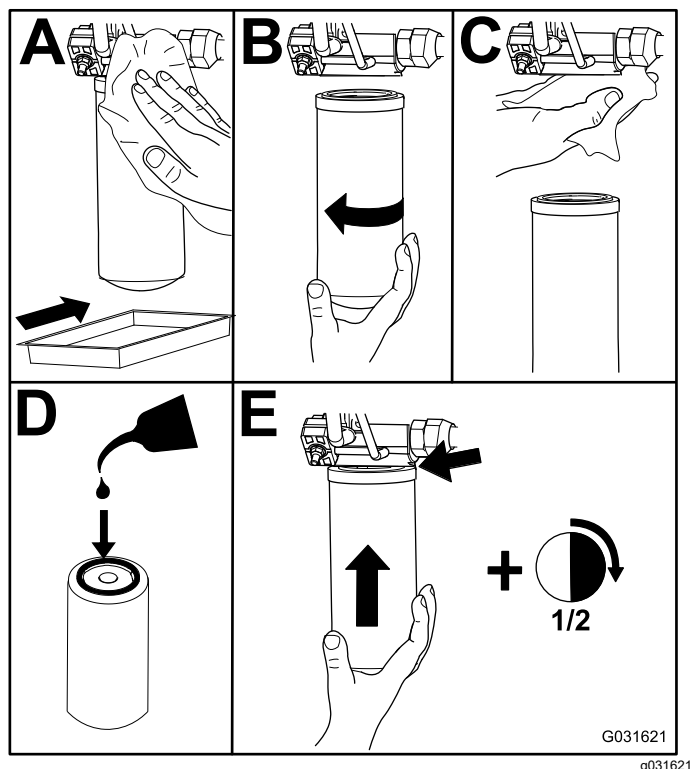

Figure 85
2. Replace the charge hydraulic filter at the hydraulic lift compartment as shown in Figure 85.
4. Replace the return filter at the right side of the machine (Figure 85).